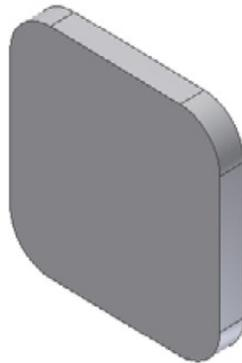

Figure 7-63 Base feature of the model
2. Exit the sketching environment and extrude the sketch to a distance of 12 mm. The base feature of the model is shown in Figure 7-63.